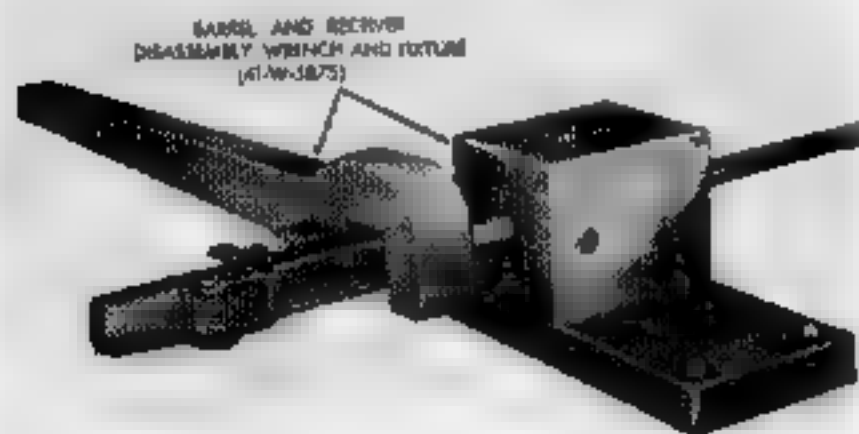

Fig. 113. Removing barrel from receiver.
41. Removing the barrel from the receiver (Fig. 113). The barrel should be removed from the receiver only when necessary. To remove, pass the barrel into the fixture, muzzle end first, until the rib on the barrel stops against the shoulder in the fixture. Position the wrench on the receiver